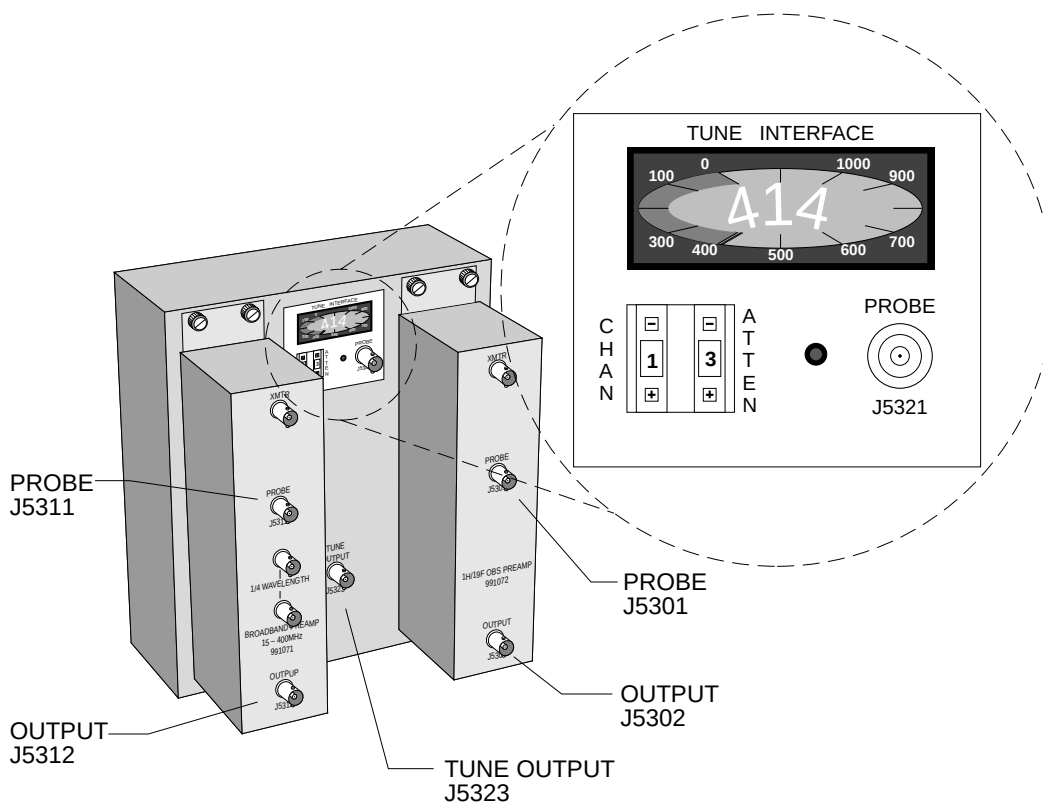

Figure 18. Tune Interface for ^{UNITY}INOVA and UNITYplus 500, 600, 750, and 800 Systems
- For 500-, 600-, and 750-MHz ^{UNITY}INOVA and UNITYplus spectrometers, the tune interface is located on the Dual-Preamplifier Assembly, as shown in Figure 18.
- ^{UNITY}INOVA and UNITYplus 500, 600, and 750 systems—disconnect the cable from the PROBE port on the broadband preamplifier (J5311) or the ¹H/¹⁹F preamplifier (J5301) and connect it to the PROBE port (J5321) on the TUNE INTERFACE, which is located on the Dual Preamp assembly shown in Figure 18. Then disconnect the cable from the OUTPUT connector (J5312 or J5302) and connect it to the TUNE OUTPUT connector (J5323).